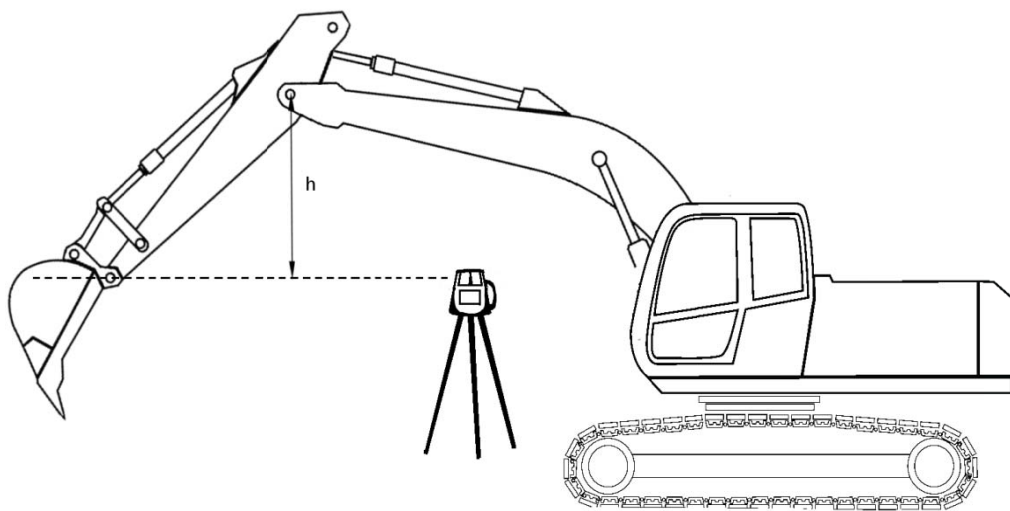

Figure 28. Calibration height
- Measure calibration height (Figure 28). Height is easiest to measure by using a point laser. Insert the laser on the same level with the lower pin of the stick and measure vertical distance from the upper pin of the stick to the laser beam.